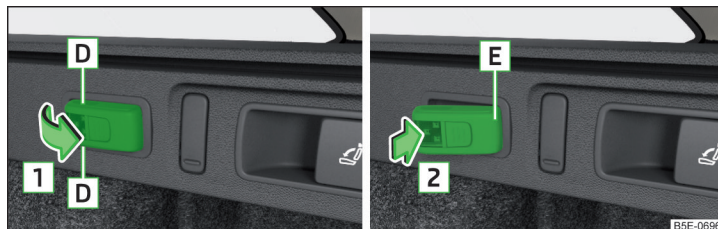

Fig. 124 Removable light: Removing/inserting
- **To remove**, hold the light in the area **D** and swivel in the direction of arrow **1** » Fig. 124.
- **To insert**, first of all insert the light with the rear part **E** into the mount » Fig. 124 and then push the light in the direction of arrow **2** until it audibly clicks into place.